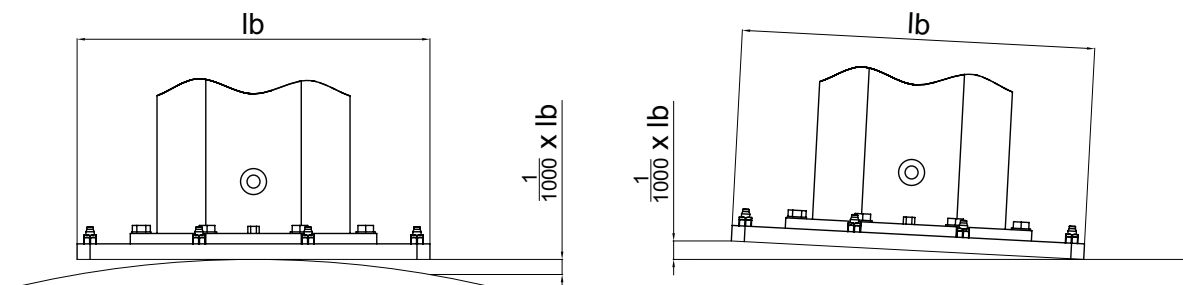

fig.24
- Check that the inclination of the surface where the counterplate is to be fitted is within the tolerances shown in fig. 24; otherwise level the surface. Do not insert shims between the floor and counterplate.